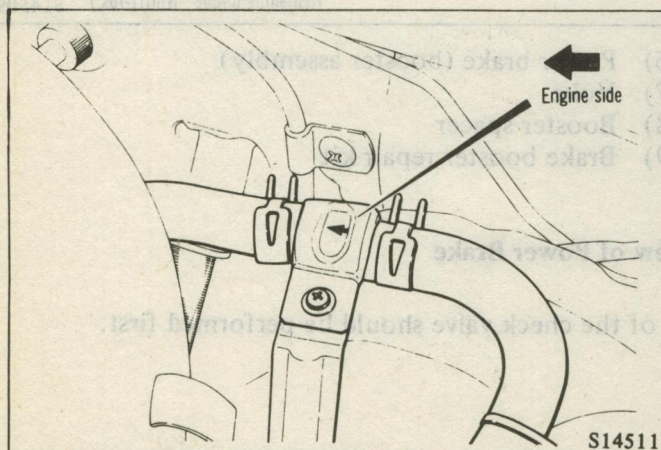

Fig. 10 Installing the Check Valve
- (2) When installing the check valve, observe instructions on the label of the check valve. (Fig. 10)